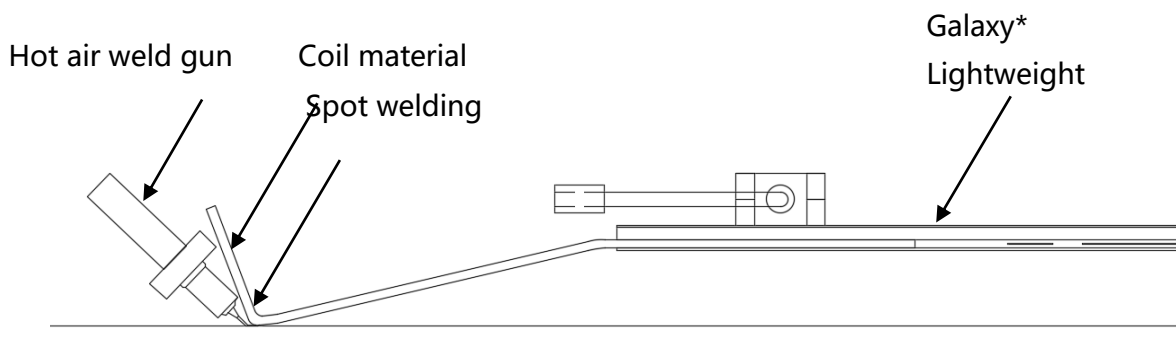

Figure 8
- Lift the Galaxy* lightweight product slightly at both ends of the coil and use a hot air torch to spot weld first to fix the product to the roof (as in Figure 8).